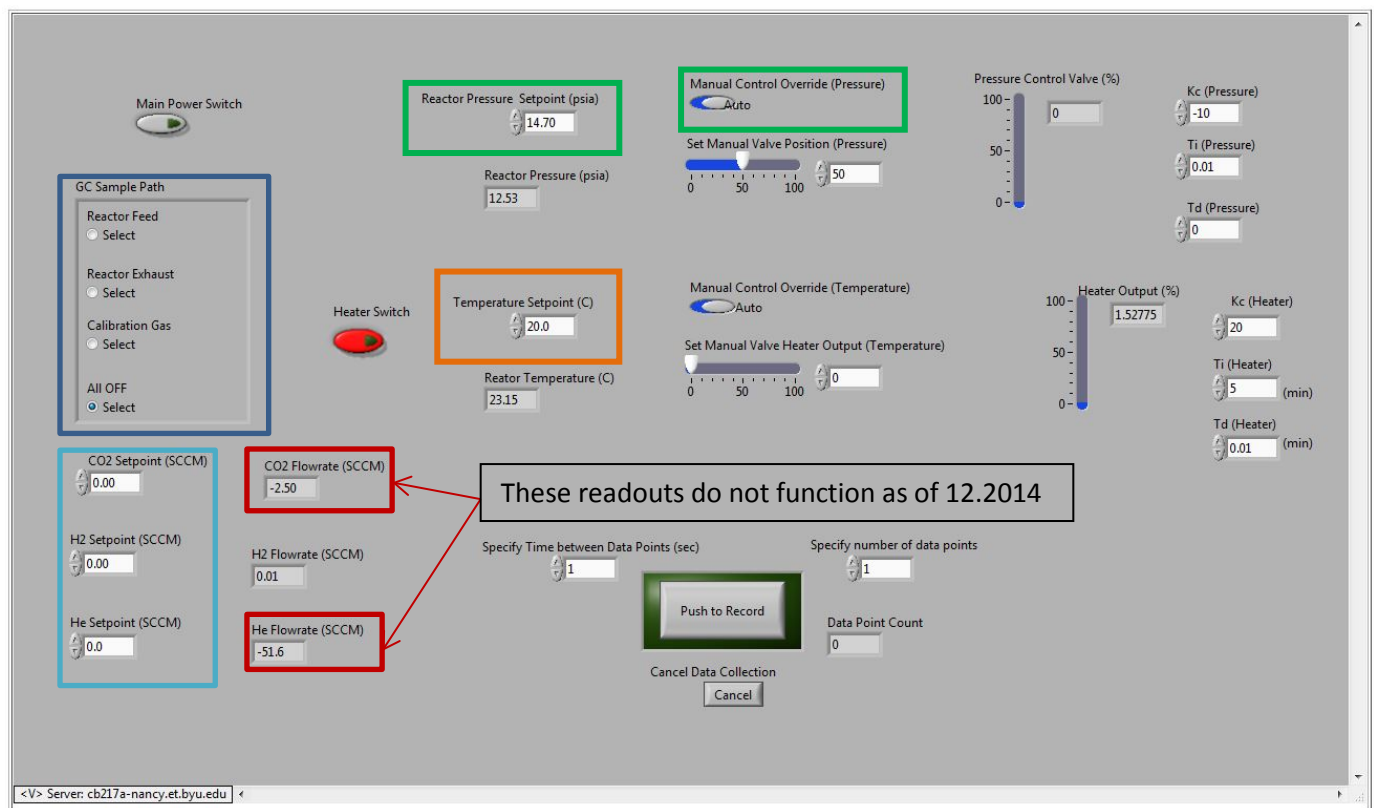

Figure 1 Labview VI screen capture for Catalytic Methanation Experiment
- 3.) Set Reactor Heater temperature set point between 225C-325C (highlighted in orange in figure 1).
- 4.) Switch Reactor Pressure to automatic control (highlighted in green on figure 1) and set pressure set point between 12.5 and 25 psia.
6.) Select GC Sample Path to Reactor Exhaust Valve to (see blue box on fig 1).
7.) Set the gas flow rates as desired (see aqua box on fig 1).